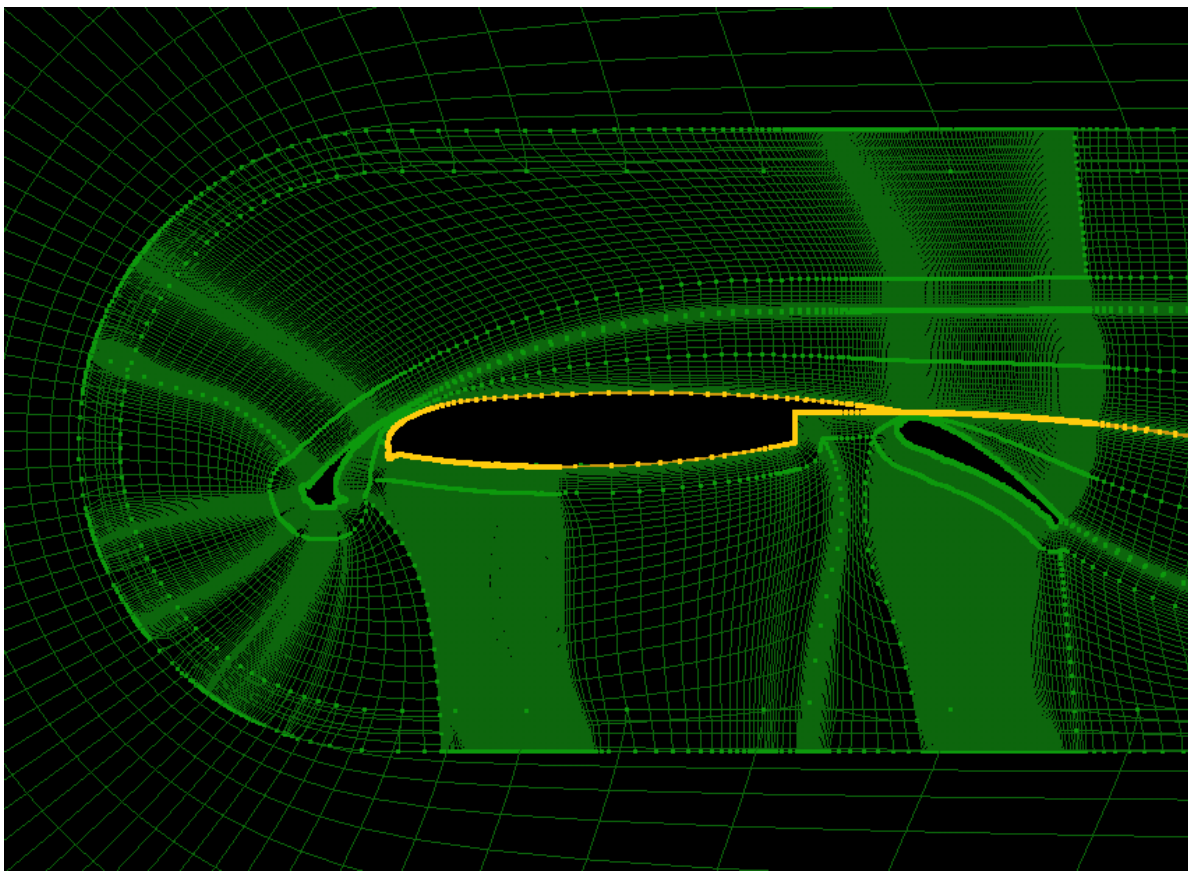

Figure 37. Complete blocking of multi-element airfoil.
- Click the **OK** button to make the changes permanent and close the window. Your grid should look similar to those shown in Figure 37.